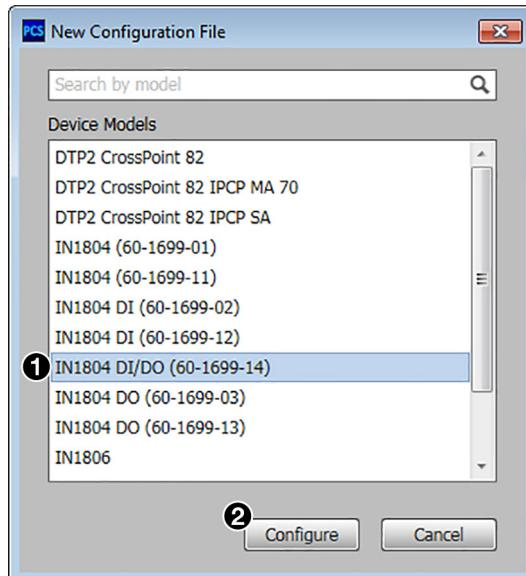

Figure 40. New Configuration File Dialog Box
2. Select the desired device model from the Device Models list (see figure 40, ①). In example, **IN1804** (standard model) was selected.
3. Click the **Configure** button (②). A new offline device configuration tab opens.